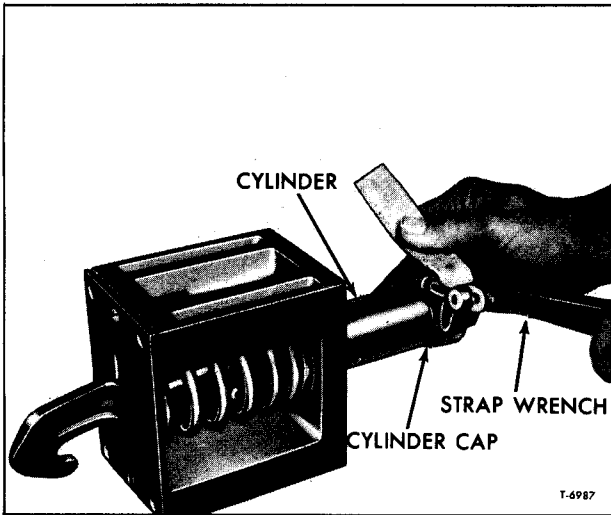

Figure 11—Disassembly of Cab Lock Cylinder
2. Loosen the cylinder cap with strap wrench as shown in figure 11, then use strap wrench and remove cylinder barrel from body.
6. Install cylinder in body and tighten with strap wrench and then tighten cap to cylinder (fig. 11).